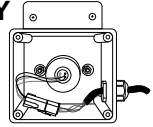

FIGURE 2
- Once the UV bulb has cooled off remove the CLEARARRAY System enclosure cover (9) and gasket (8) by removing the four screws (10). This will expose the UV bulb and connections, Figure 2.